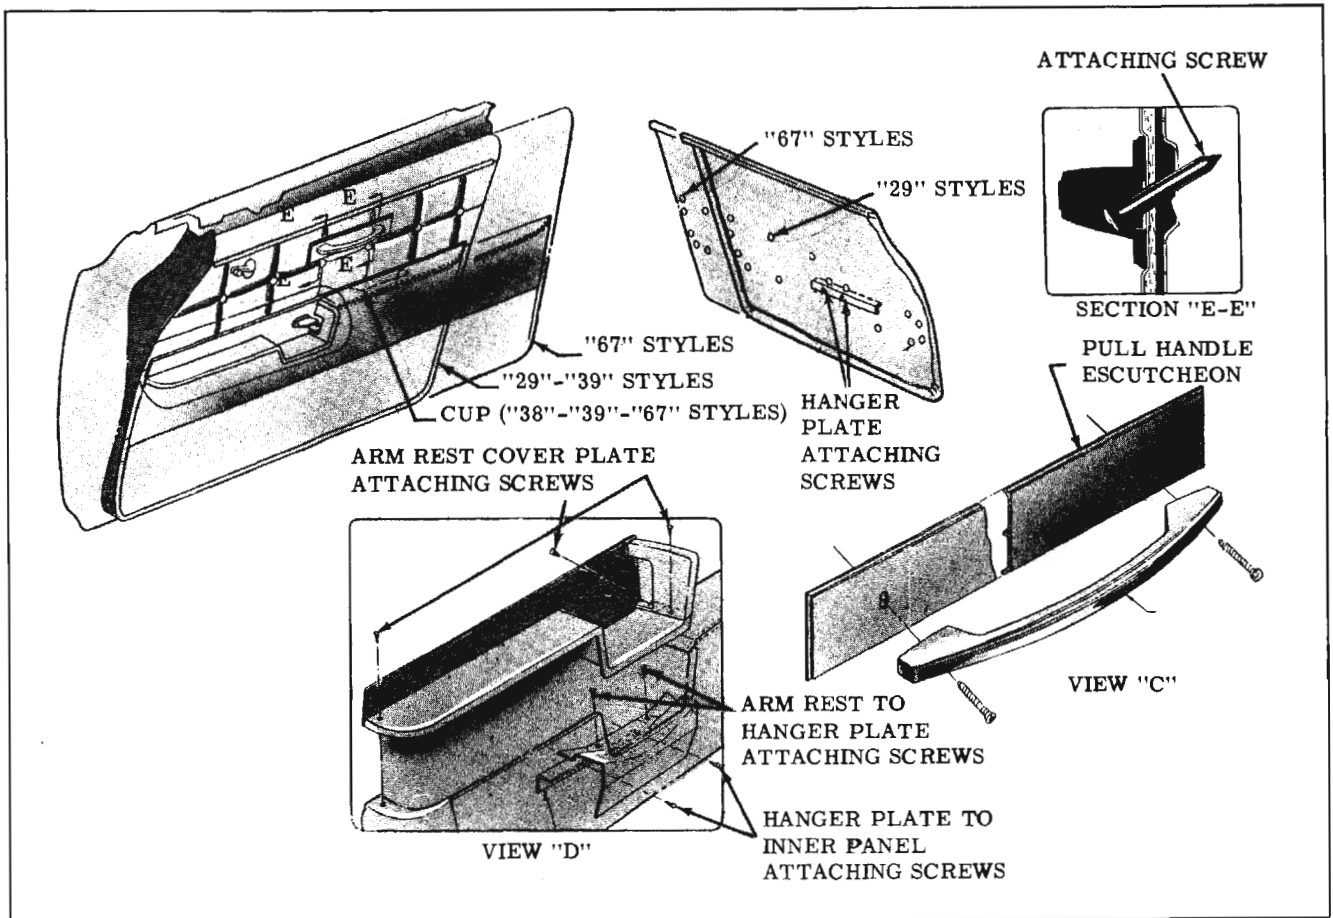

Fig. 16-14 Door Pull Handles (3829-39-67 Styles)
1. Remove two screws securing door pull handle to door inner panel and remove pull handle from door. (View "C", Figure 16-14)